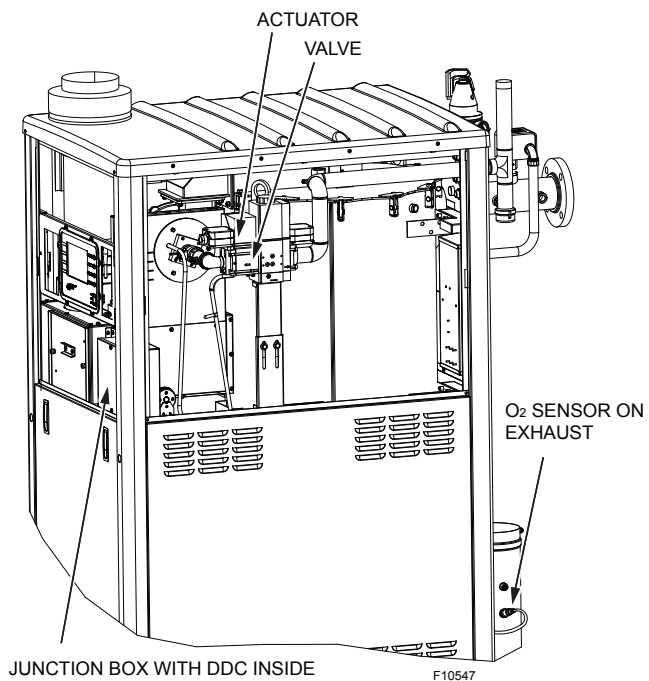

Figure 1. O₂ Trim System Components
1. **DDC circuit board** - The direct digital controller (DDC) board is the brains of the system, it modulates the actuator based on O₂ sensor readings and blower RPM. The DDC is located in a junction box on the side of the air box and has a cover for easy access to the controller. The DDC communicates with the touchscreen via Modbus. See **Figures 1 and 2**.
4. **Harnesses** - There are six (6) harnesses for the O₂ trim system inter-connecting O₂ components with the boiler's components. Refer to the Wiring Section.